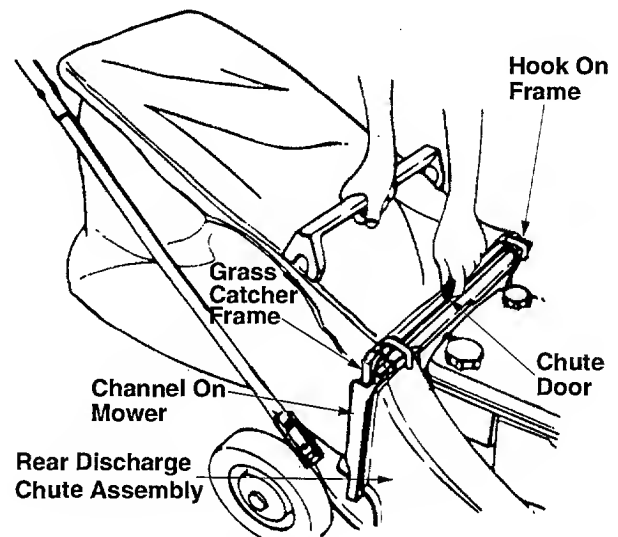

Figure 5
1. Swing open the chute door on the catcher panel and hold in this position. See Figure 5.